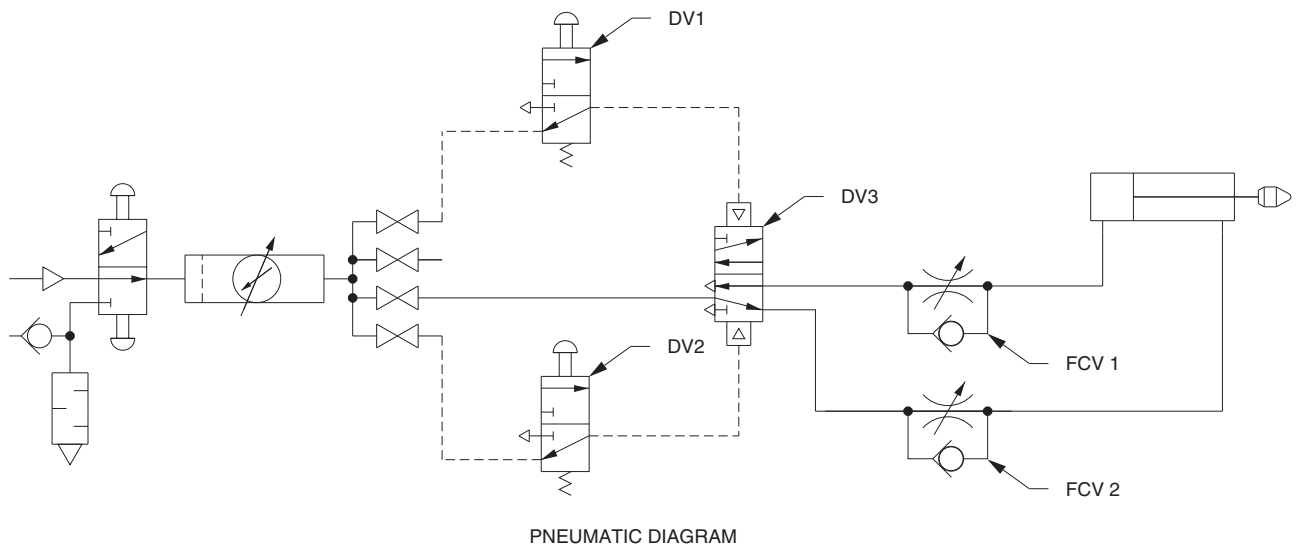

Figure 3-4. Schematic Diagram of a Memory Circuit.
- ☐ 1. Connect the circuit shown in Figure 3-4. Screw a tip to the cylinder rod.